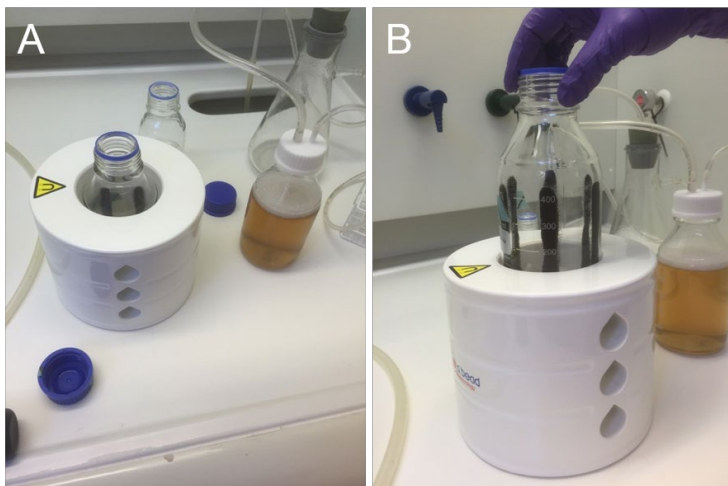

Fig 2. (A) Removal of solution from the sample bottle to the safety bottle. (B) Black rims of MACicBead particles after separation.
- Remove the solution by withdrawing liquid from the center of the bottle, using, e.g., a serological pipette connected to a water suction device or a vacuum pump, with a clean safety bottle between (Fig 2). If beads are accidentally withdrawn, they can safely be recovered from the safety bottle.
Note: A safety bottle should be inserted between the pipette and the suction/vacuum device (Fig 2). The safety bottle enables trapping of